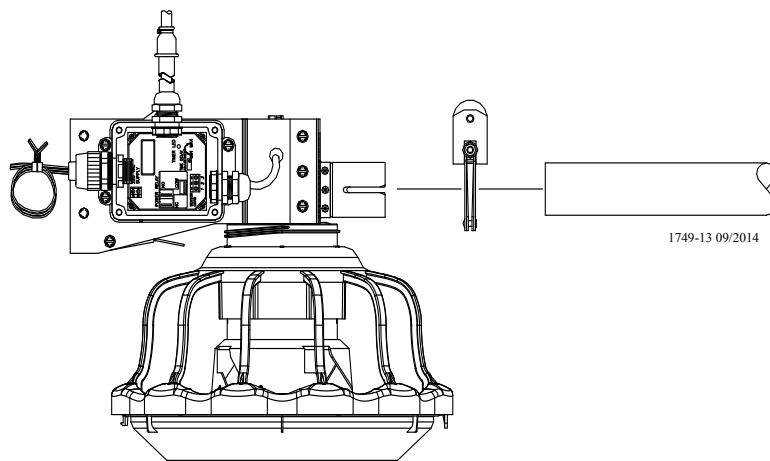

Figure 46. Connecting End Control Unit to the Feed Line Tube
1. Assemble the End Control Unit to the Feeder Line Control Tube using a clamp/anti-roost bracket. See **Figure 46**. **DO NOT INSTALL THE POWER UNIT AT THIS TIME.**